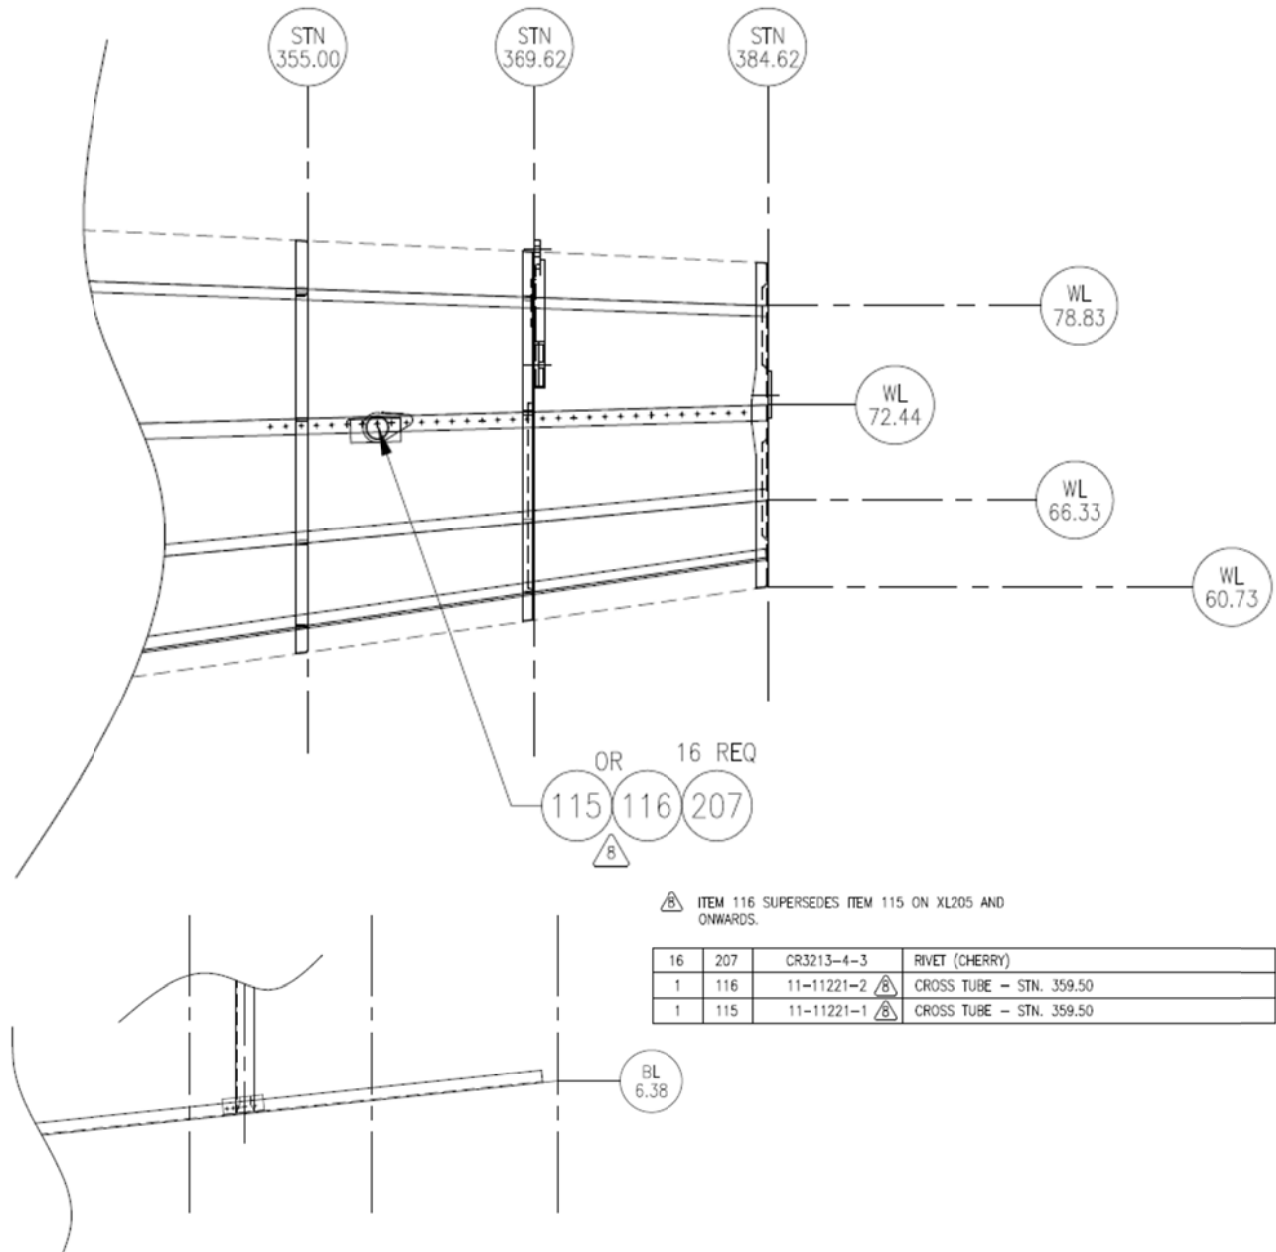

FIGURE 3 RIVET LOCATIONS
(Refer to Figures 3 and 4)
- 7) If damage is detected, remove the Cross Tube from the aircraft by drilling out the attachment rivets (See Figure 3) in accordance with the manufacturer’s rivet removal procedures listed in CA-1015 (Cherry Aerospace Process Manual).
- 11) Install the Cross Tube into the aircraft at STN 359.50 using Cherry Rivets P/N CR3213-4-3 (Qty 16, See Figure 3).